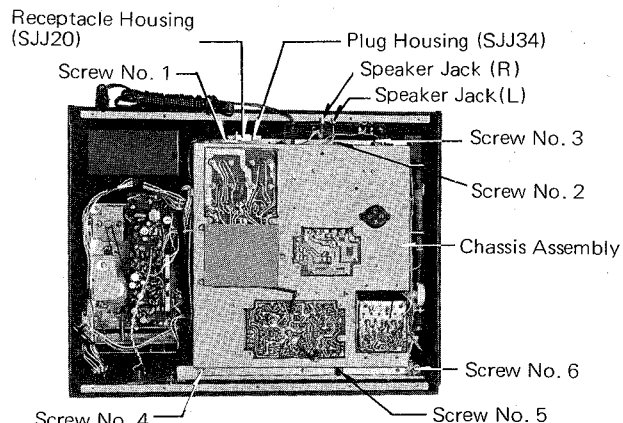

Fig. 3
4. Remove seven (7) chassis red mounting screws, Nos. 1 ~ 7 as shown in Fig. 3.